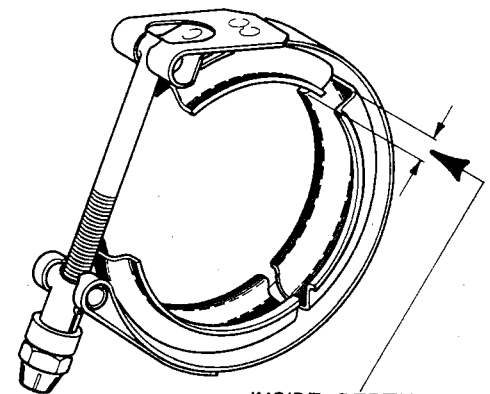

Figure 2. Exhaust Manifold Coupling Inspection Requirement
3. Reassemble exhaust adapter pipes to transition assembly using new 78083 gaskets. Check coupling part number. MVT69183-200 Avco Lycoming P/N LW-12093-5 is the number of the correct coupling to be used. Inspect the 3 v-band sections of each coupling with a depth micrometer as shown in figure 2. Any dimension obtained under .230 inch renders the coupling unfit for further service.